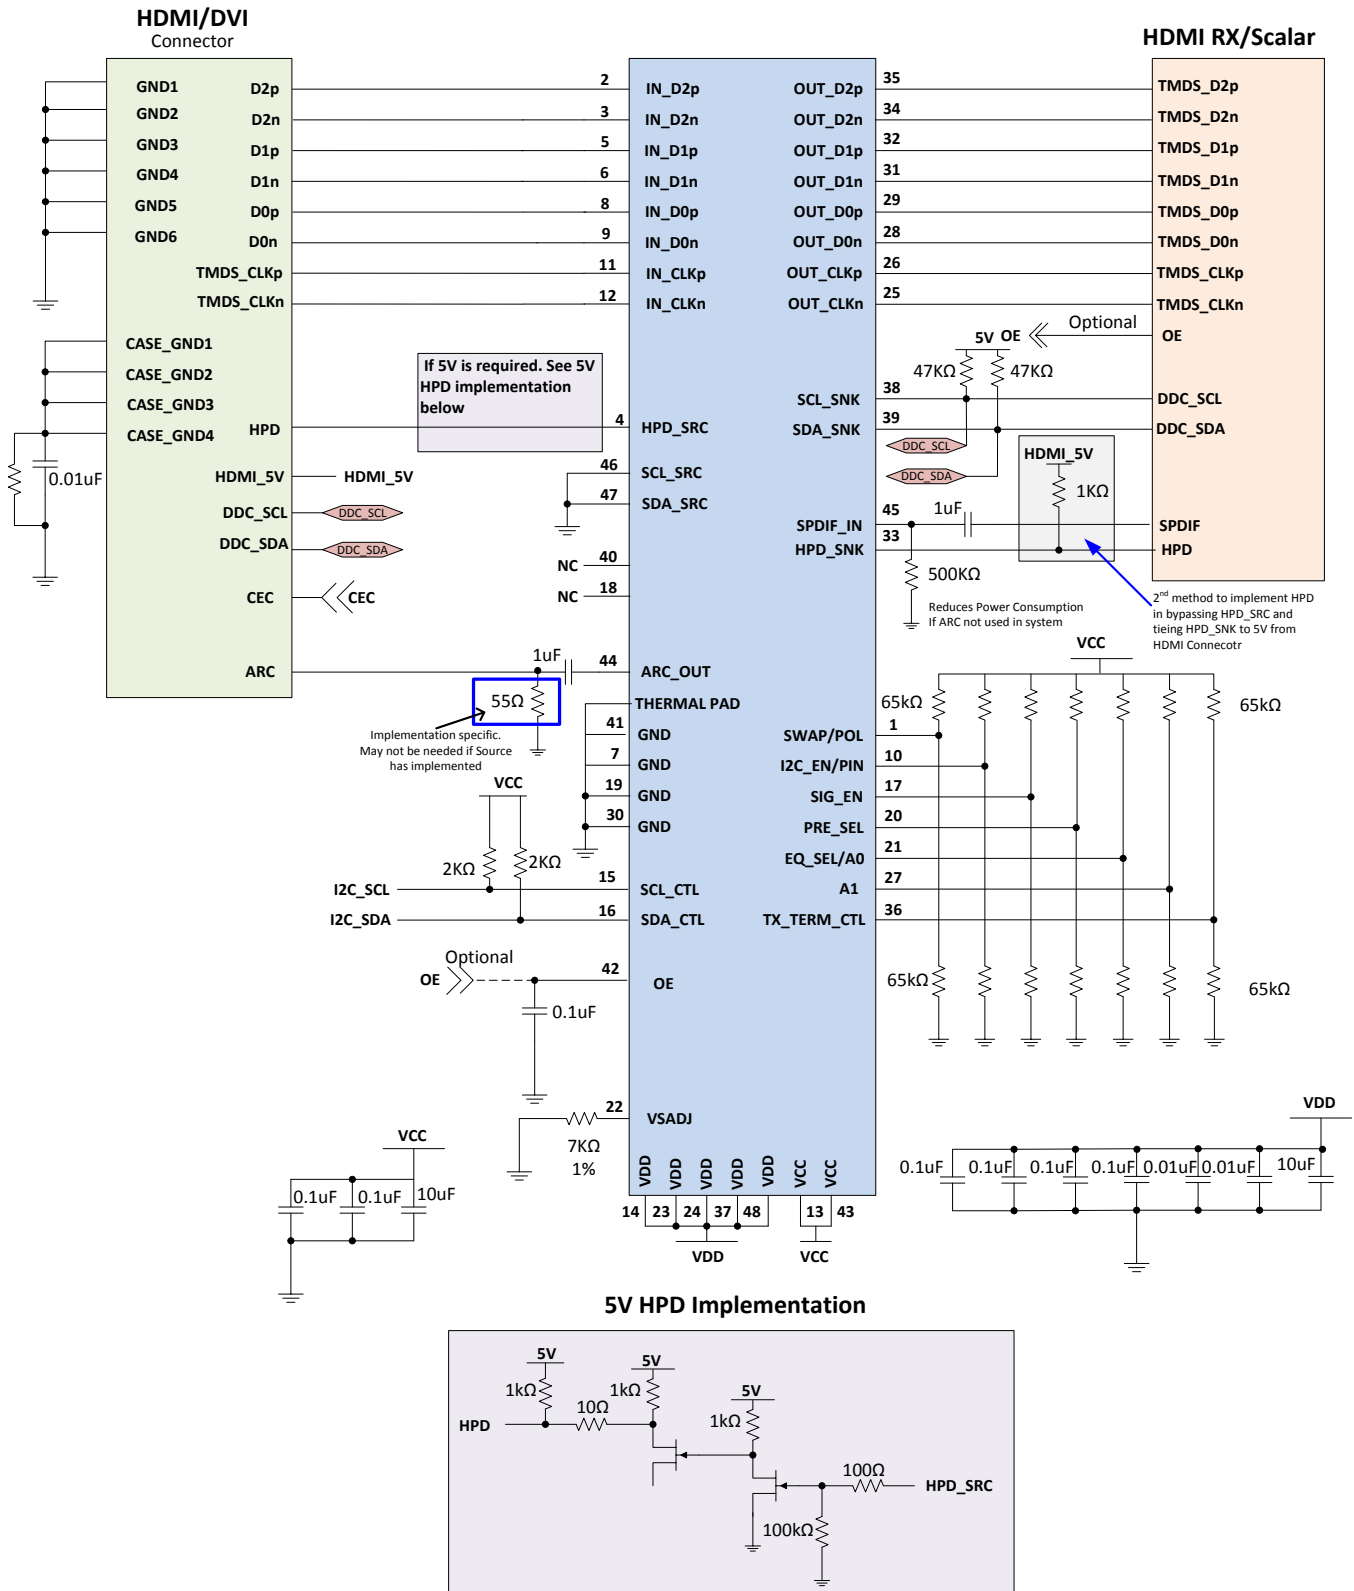
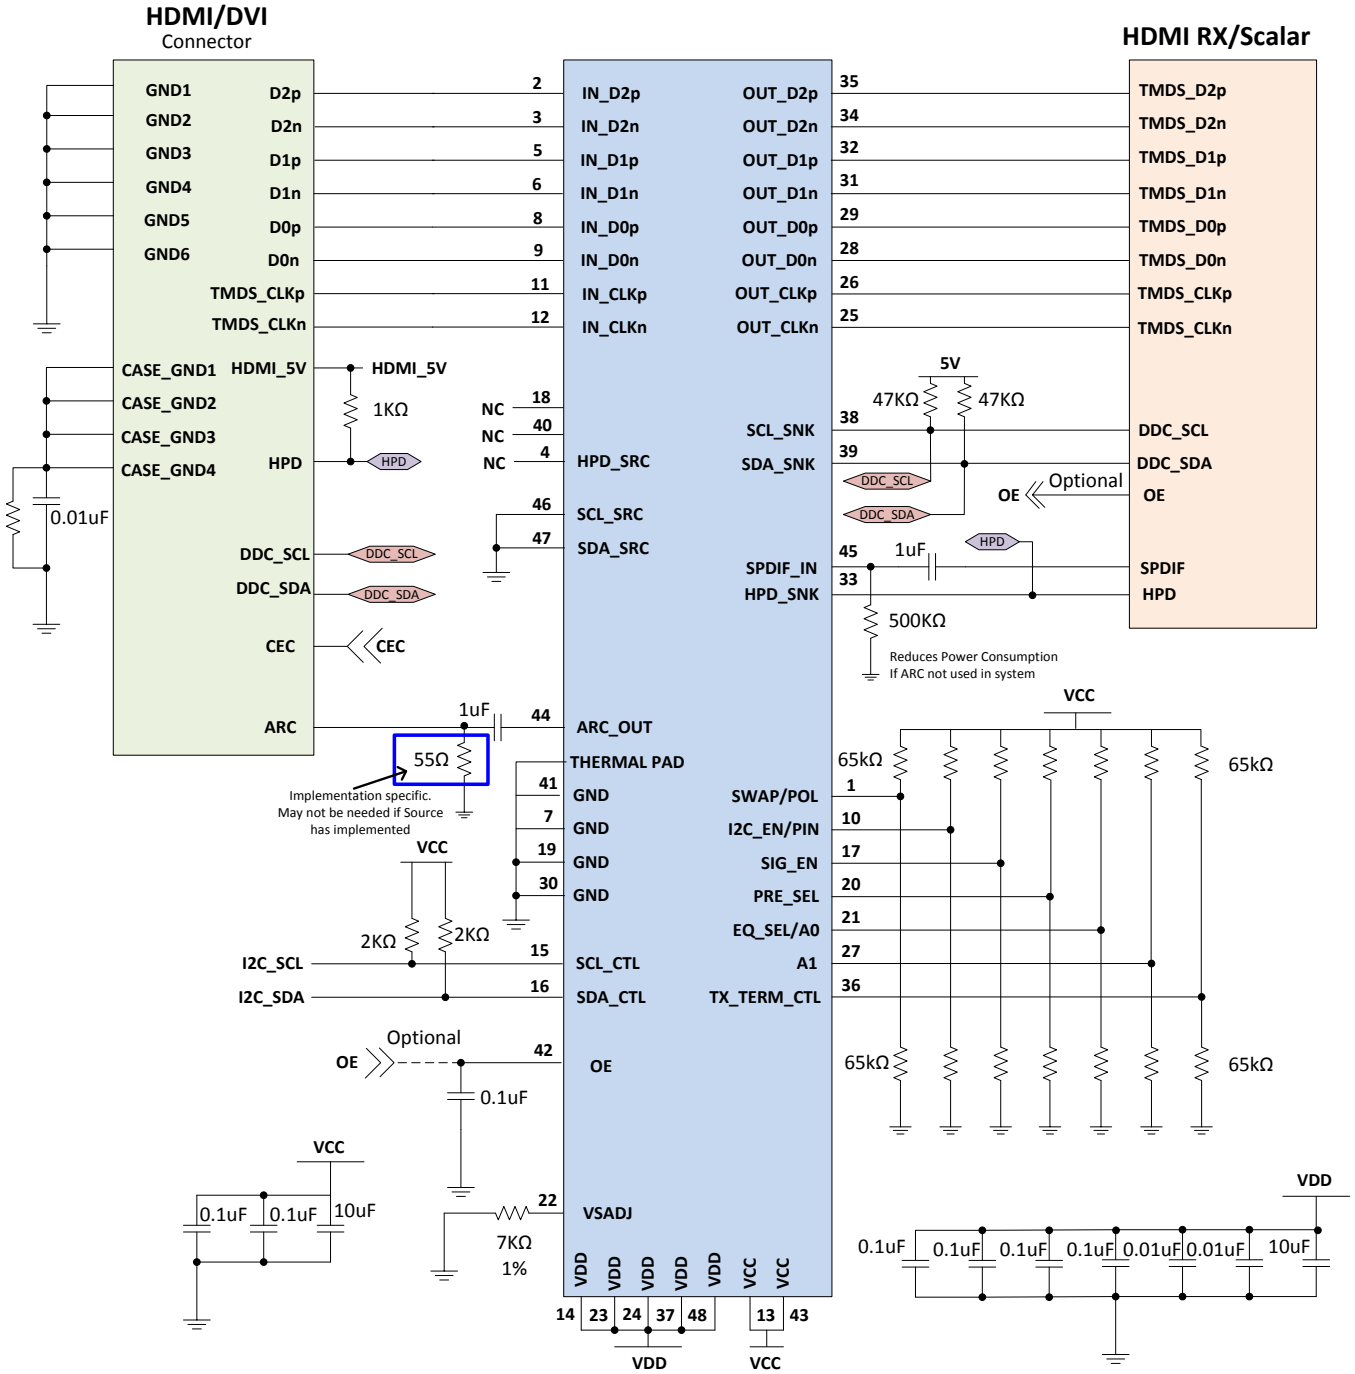

Figure 35. TMDS181 in Sink Side Application (Including 5-V HPD Implementation)
Figure 36. TMDS181 in Sink Side Application
For a sink side application, HPD needs consideration. The TMDS181 drives the HPD signal to 3.3 V, which meets requirements, but if 5-V HPD signaling is required, the two circuits shown in Figure 35 are required. As sources are not consistent in implementing all aspects of the DDC link, TI recommends to configure the TMDS181 as per Figure 35. Another consideration for how HPD is implemented is the architecture and behavior of the HDMI RX/scalar. The standard requires sinks to clear the TMDS_CLOCK_RATIO_STATUS in the SCDC when either +5-V power signal from source is not present or when hot plug detect pin goes low for 100 ms or more. When HPD goes low, the TMDS181 automatically clears this bit. The TMDS181 expects the TMDS_CLOCK_RATIO_STATUS bit to be set with a write from source to receiver/sink. If this does not happen, the TMDS181 may come up in the wrong configuration. Until the HDMI ecosystem matures, TI recommends to implement sink application as per Figure 36 to address this.
Designing the TMDS181 into a sink side application requires similar care as for a source side application. However, because compliance is at the receiver, there is more flexibility for the transmitter to the HDMI RX/chipset link. Because many different reflection points are possible, the TMDS181 allows for swing, slew rate adjustments, pre-emphasis, and transmitter termination control that can help minimize these reflections. The TMDS181 has a 3.3-V HPD drive capability which meets requirements. In cases where the designer needs to support 5-V HPD drive capability, the circuit shown in Figure 35 is required.
- Use the typical application Figure 35 for information on control pin resistors.
- See schematics in Figure 35 on recommended decoupling capacitors from VCC pins to ground.
- Because the HDMI ecosystem supporting 4k2kp60 is not mature, TI recommends to design the TMDS181 into the sink application as shown in Figure 36.
The DDC circuitry inside the TMDS181 allows multiple stage operation (see Figure 36). The retimer devices can be connected to any of the bus segments. The number of devices that can be connected in series is limited by repeater delay/time of flight considerations for the maximum bus speed requirements.